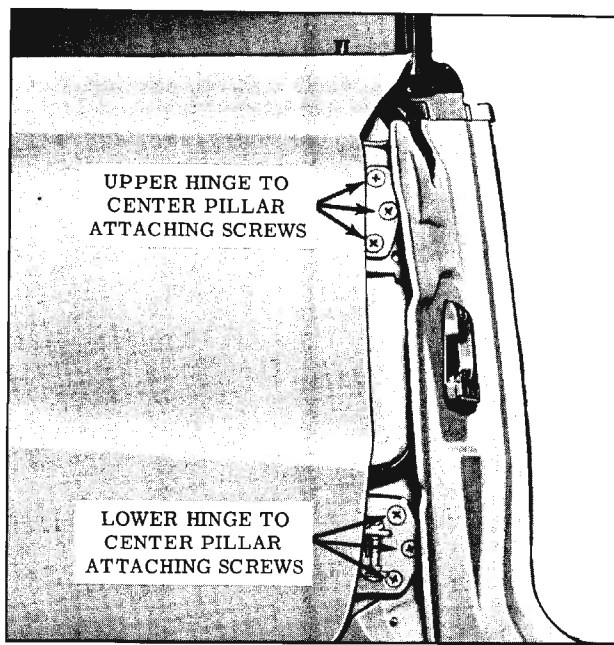

Fig. 16-49 Rear Door to Pillar Attachment
4. With door properly supported, remove three upper and lower hinge attaching screws at door hinge pillar or center pillar depending on method of removal. (Fig. 16-49 and 16-50)
- To adjust door fore or aft, loosen hinge to center pillar attaching screws, adjust door fore or aft as required and tighten screws. (Fig. 16-49)